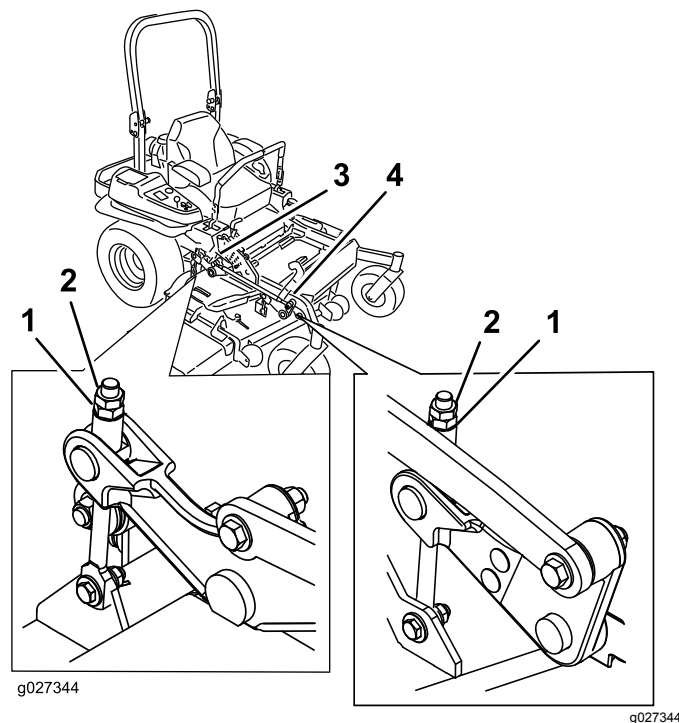

Figure 87
- 10. For mower decks shown in Figure 87, fine-tune the adjustment nut on the front deck-lift assembly by turning it.